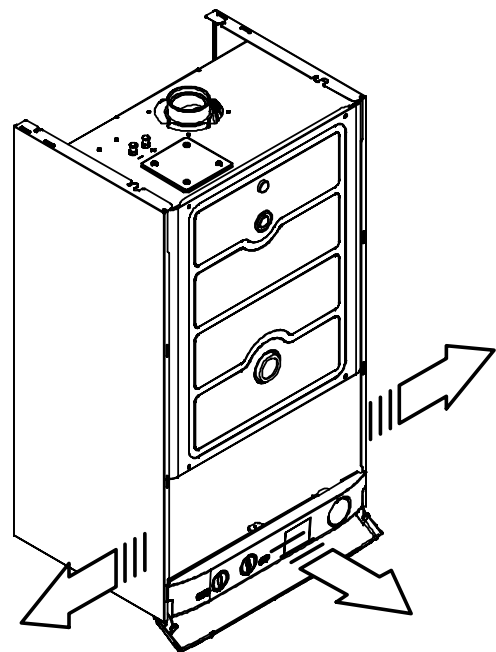

Fig. 6.13
- 4 Remove the side panels or move the lower part of the side panels as indicated in Fig. 6.13 and pull the control panel. When completely pulled out, the panel can rotate 45° downwards to facilitate the operations on the internal parts.